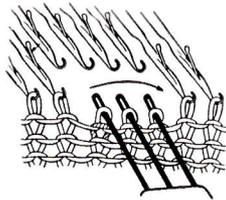

Fig. 55
- 2) Use 3 needle transfer tool, transfer all the stitches on either side to the neighboring outside needles of them. (See Fig. 55)